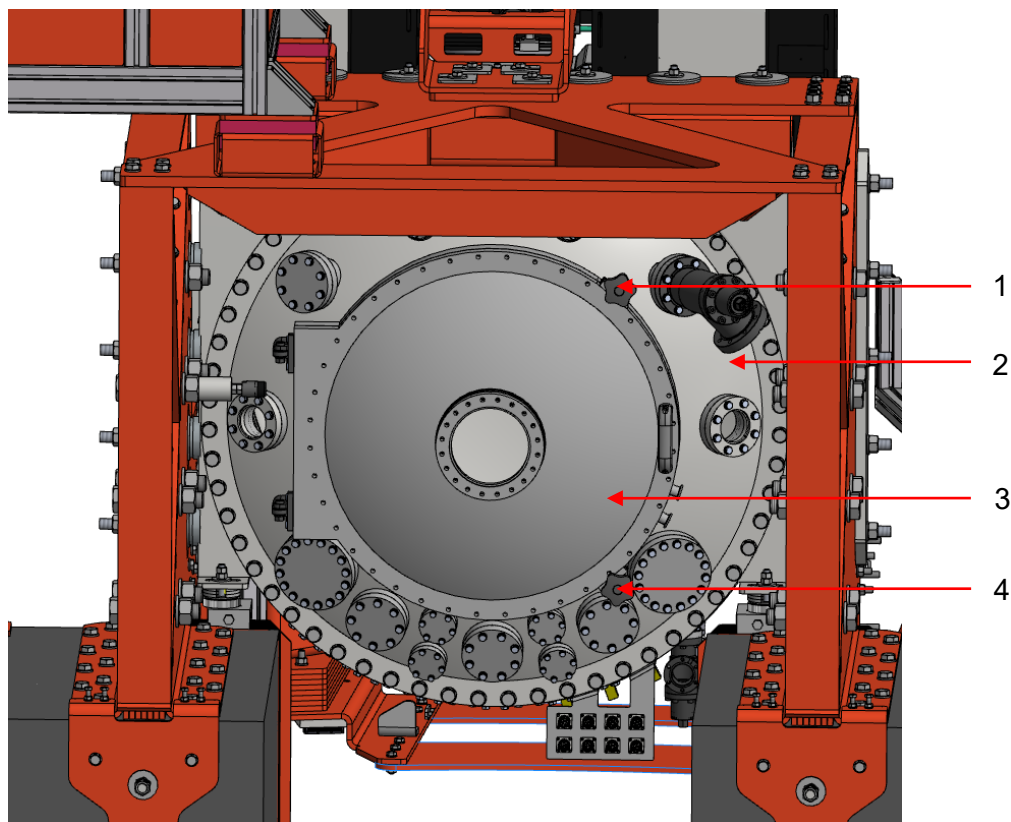

Figure 7: Maintenance door at the sample chamber
The rotary feedthrough (#3 in Figure 7) at the cryostat manipulator is also differentially pumped.
Two Viton gaskets are used for sealing the maintenance door (#2 in Figure 7) at the sample chamber. A successful bakeout procedure requires following the next steps:
- D. Carefully close the door and tighten the two star grip screws (#1, 4 in Figure 7).